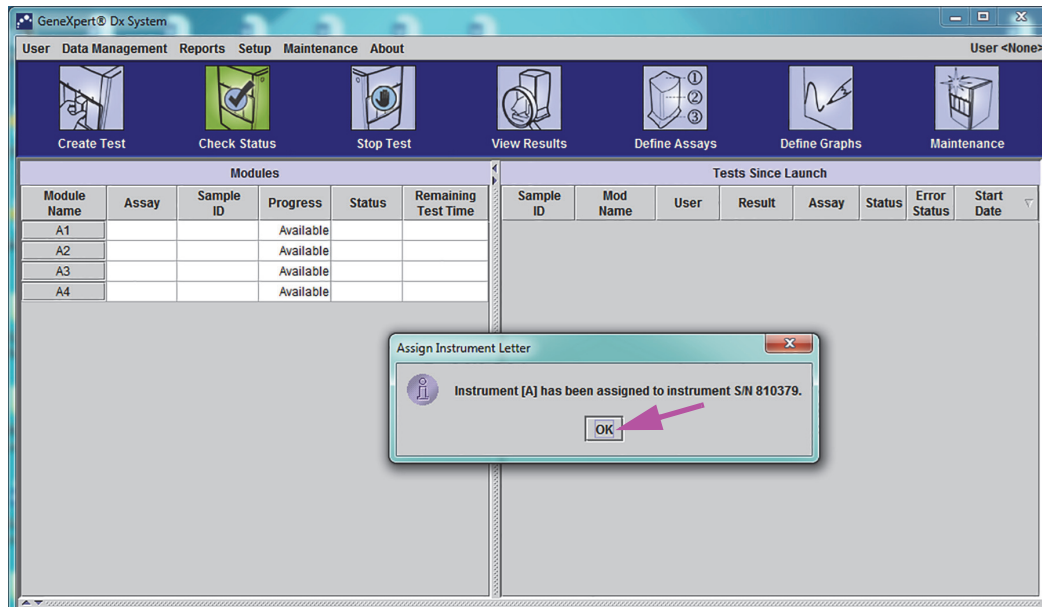

Figure 2-31. GeneXpert Dx System Window with Updated Instrument Letter Assignments
8. Click **OK** to close the Assign Instrument Letter dialog box (see Figure 2-31). The Module Name is updated with the new Instrument Letters.